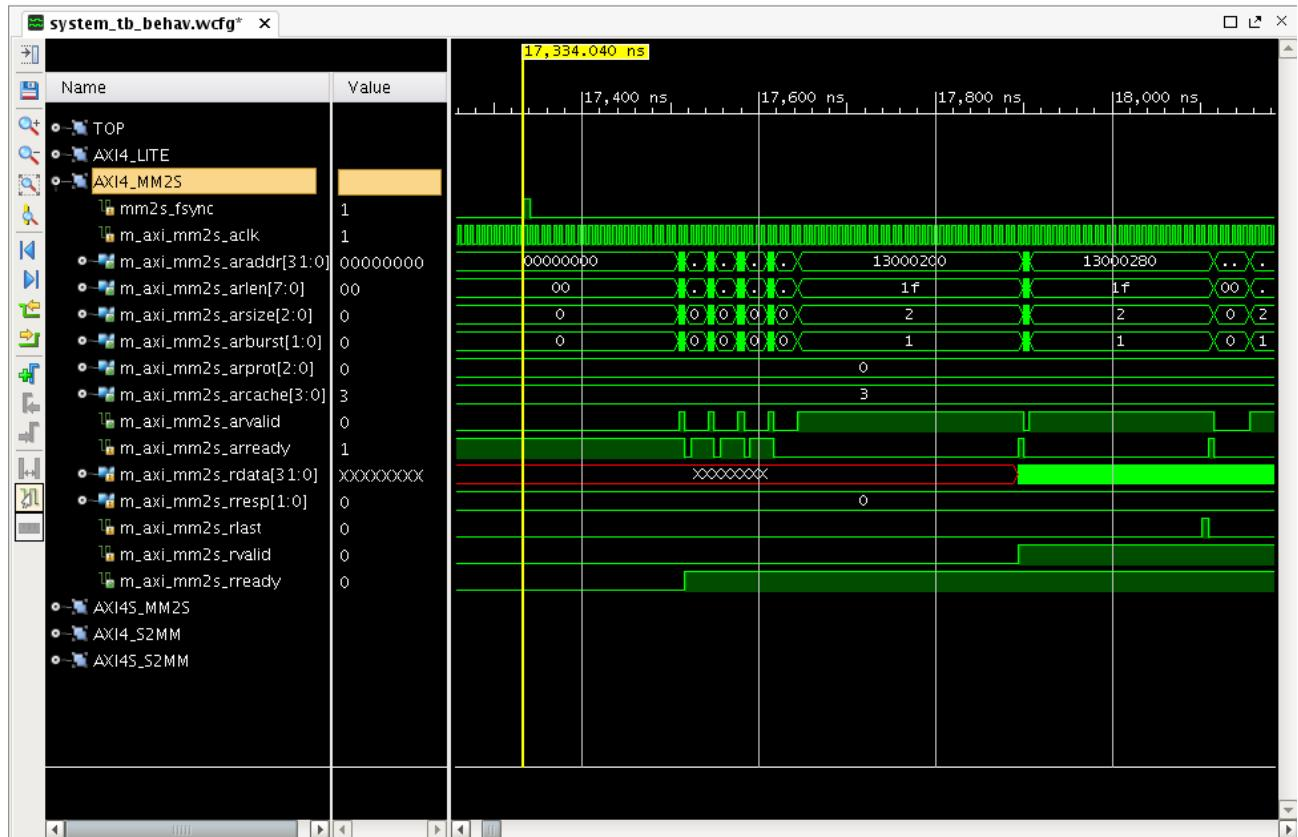

Figure 3: AXI4_MM2S—First Reads after `fsync`
3. Expand the AXI4_MM2S group and zoom in between 17.3 μ s and 18.2 μ s. This shows the first read transitions after `fsync`. Four read transactions (address phase) are accepted by the AXI Interconnect core while the fifth transaction is throttled until `rvalid` is asserted for the data phase. `rlast` is asserted after 32 data beats are received by the core (the maximum burst of the AXI VDMA core is set to 32 data beats). This is shown in Figure 3.